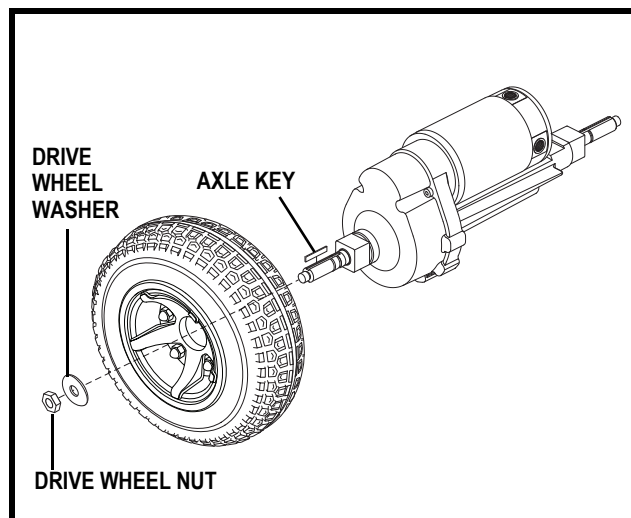

Figure 28. Drive Wheel Removal
4. Remove the drive wheel nut and washer from the axle. See figure 28.
9. Slide the wheel back onto the axle. Make sure that the axle key is in the axle slot. See figure 28.